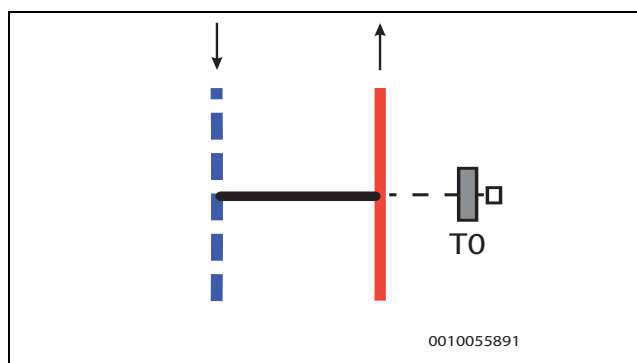

Fig. 11 Bypass, in straight design
- The flow temperature sensor T0 is installed on the flow connection of the bypass → Figure 11.